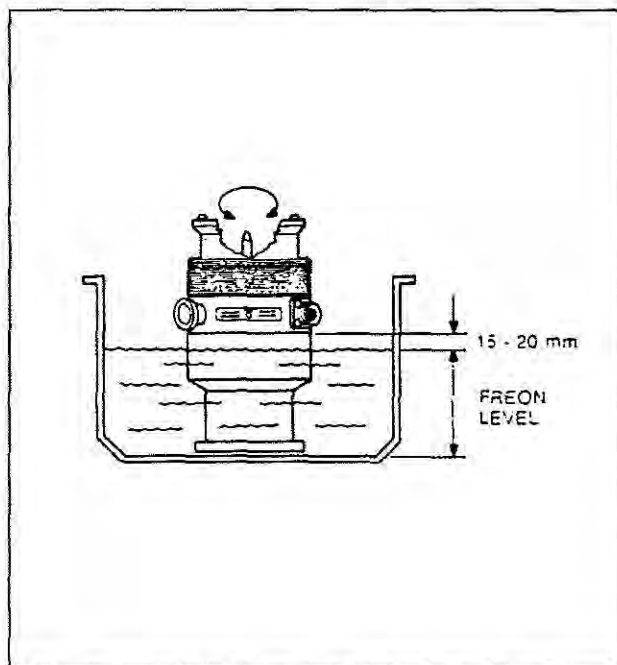

Figure 3-1 - Assembly pump cleaning
Cleaning must be performed in the following order (refer to fig. 3-1):
- 3) After the oil has completely drained, turn the pump upside-down and lower it into the solvent bath. Make sure that the solvent level is 15-20 mm below the end of the pump upper body envelope when inverted (refer to fig. 3-1).